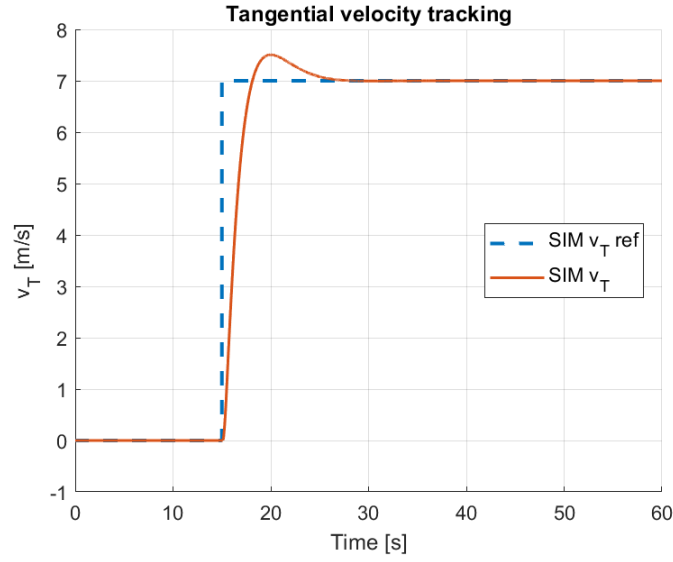
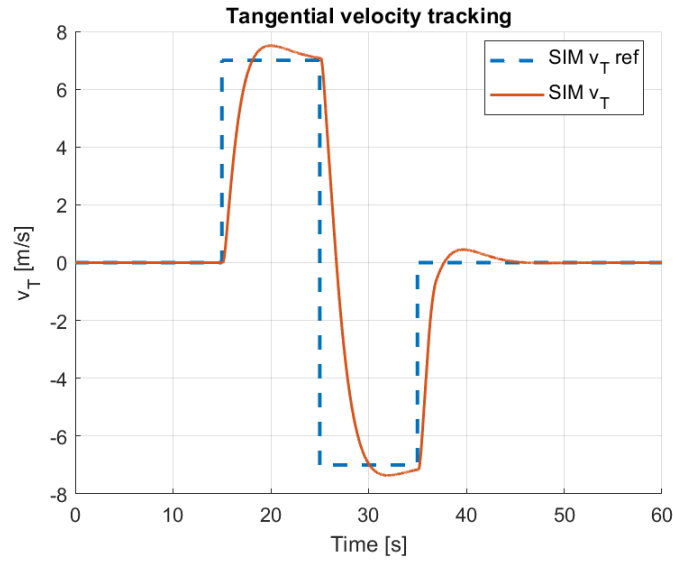
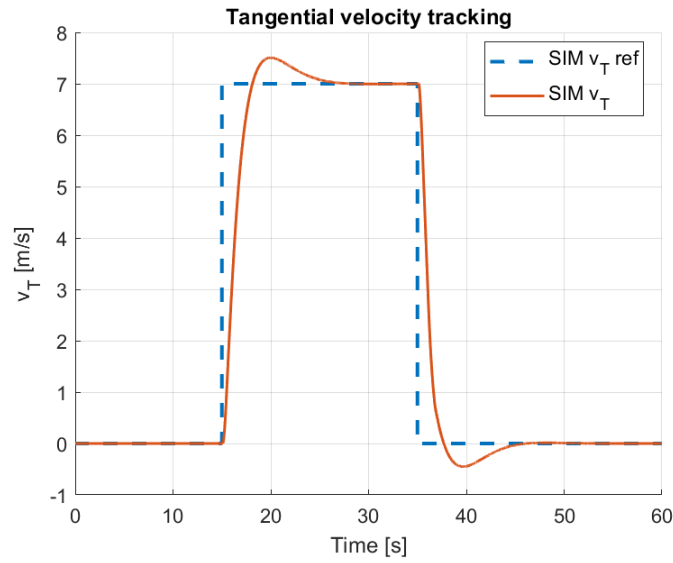
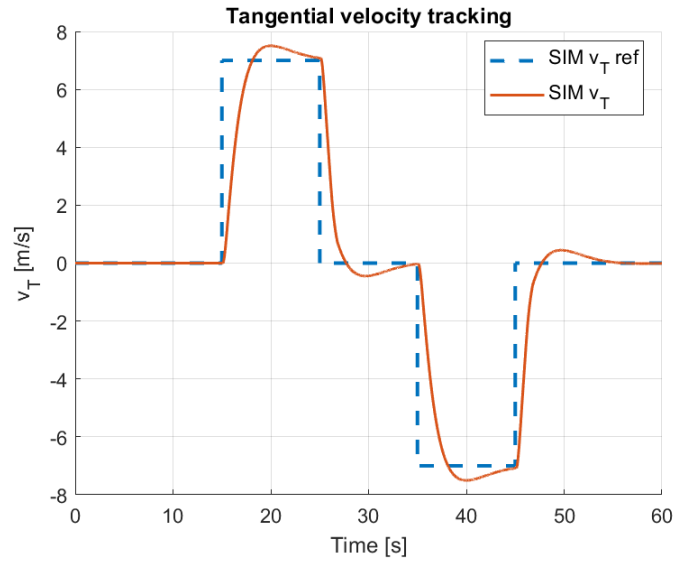

Figure 1: Step velocity response in tangential direction
Figure 2: Doublet velocity response in tangential direction
Figure 3: Half doublet velocity response in tangential direction
Figure 4: Elongated doublet velocity response in tangential direction
- Give X, Y, Z and Yaw reference signal shapes and values. Step (see Fig. 1), doublet (see Fig. 2), half doublet (see Fig. 3) and elongated doublet (see Fig. 4) types can be selected. Step parameters are given by the `step` structure, while doublet (all three type) parameters by the `doublet` structure. (lines 57-114)